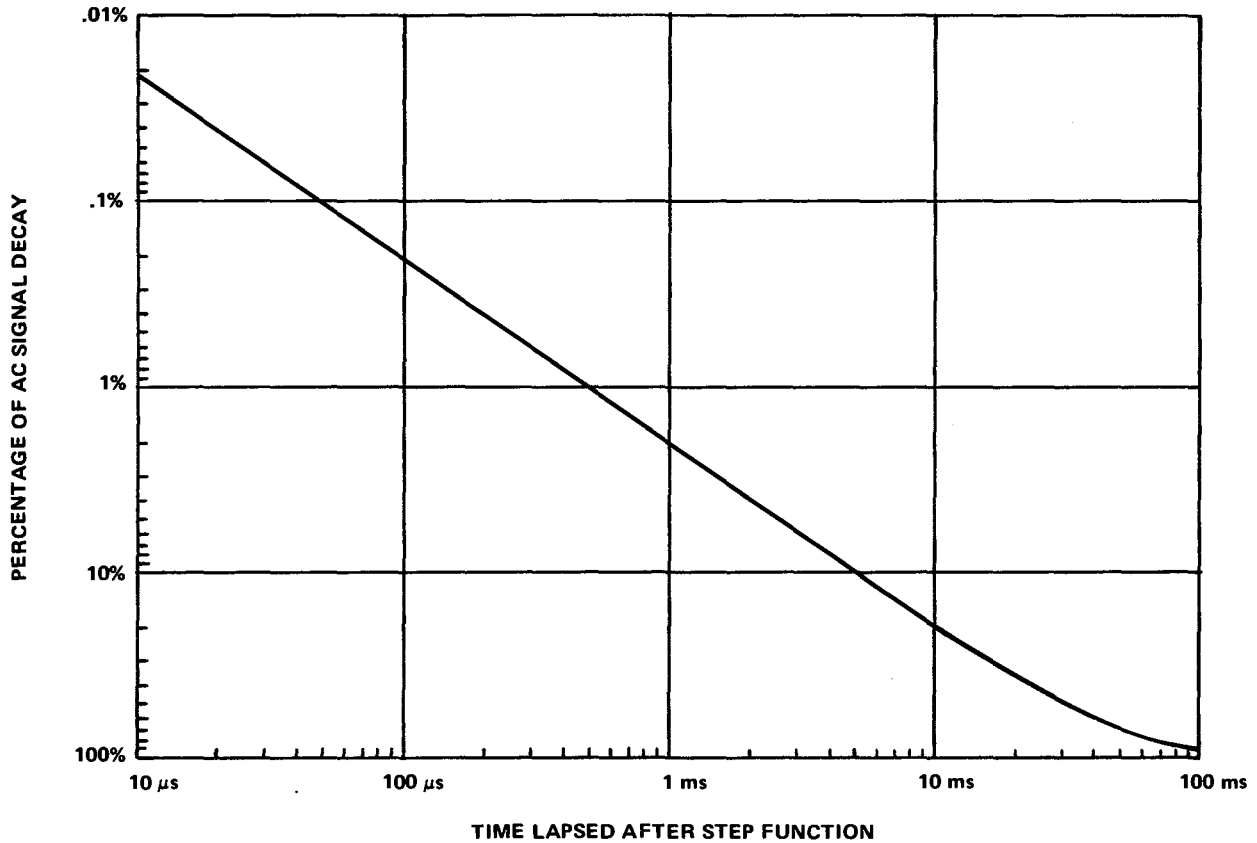

Fig. 3-5. Percentage of signal decay in AC COUPLING mode.
2. The graph in Fig. 3-5 shows the signal decays three percent in 1.4 milliseconds after the step function.